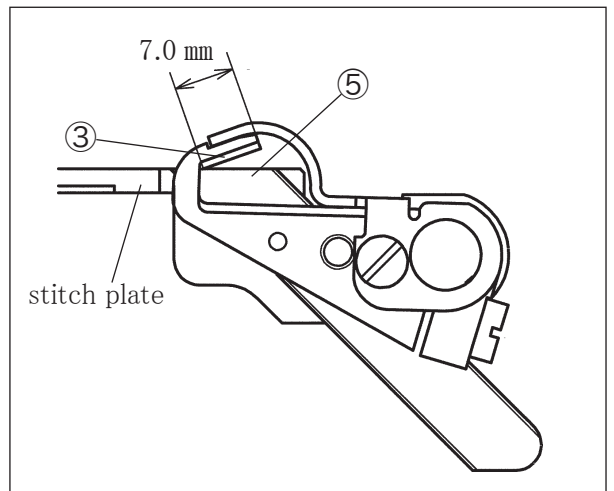

Fig. 7-7
- (1) Attach the upper knife ③ to the pin ⑧ in the upper knife holder ④ and tighten the screw ⑦ securely.
- (2) Set the left end of the chip receiver ⑨ fixed on the left of the upper knife holder ④ 1.5 mm apart from the left end of the upper knife shaft ⑩ .
- (3) Rotate the handwheel manually to lower the upper knife ③ at the lowest point. Move the upper knife holder ④ to place the upper knife tip 0.5 mm above the top of the lower knife. Then, tighten the screw ⑥ securely.
- (4) Loosen the screw ② on the collar(left) ① . The upper knife ③ touches the lower knife ⑤ with its spring.
- (5) Rotate the handwheel manually to check the sharpness of the blades by setting a thread between the upper knife ③ and the lower knife ⑤ .
- (6) Set the top of the lower knife ⑤ 7.0 mm apart from the upper knife ③ tip (at the base of the blade). Then, tighten the screw ② securely. (See Fig. 7-7)
- (7) Recheck the knives cut properly.